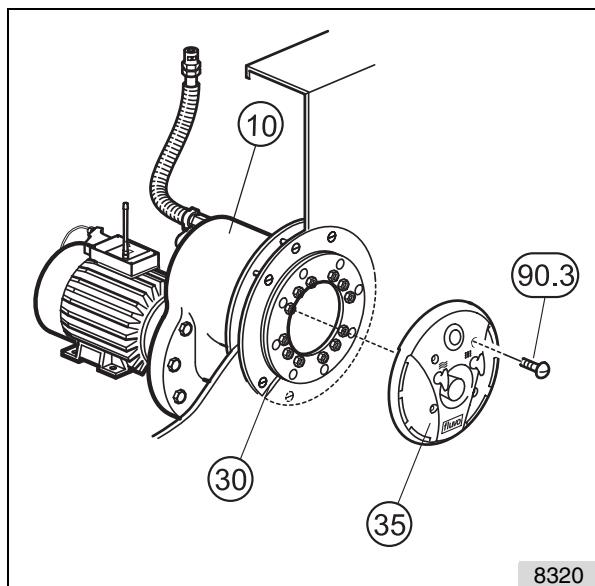

fig. 23
The air hose (65) including the non-return air valve (28) can also be mounted in the overflow, in special cases. (See fig. 23, detail X).